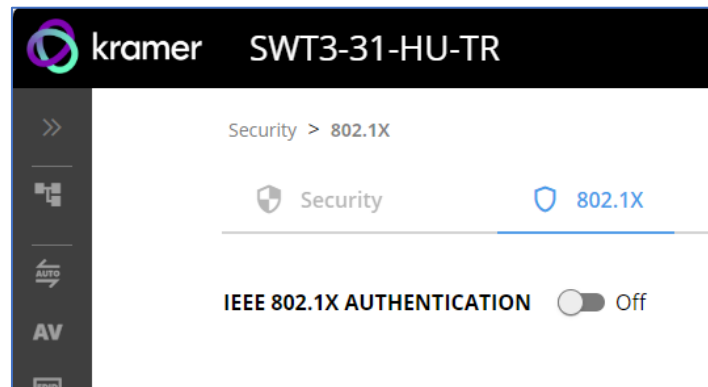

Figure 52: 802.1X Tab
2. Select **802.1X** tab. The 802.1X settings tab appears (see Figure 52).